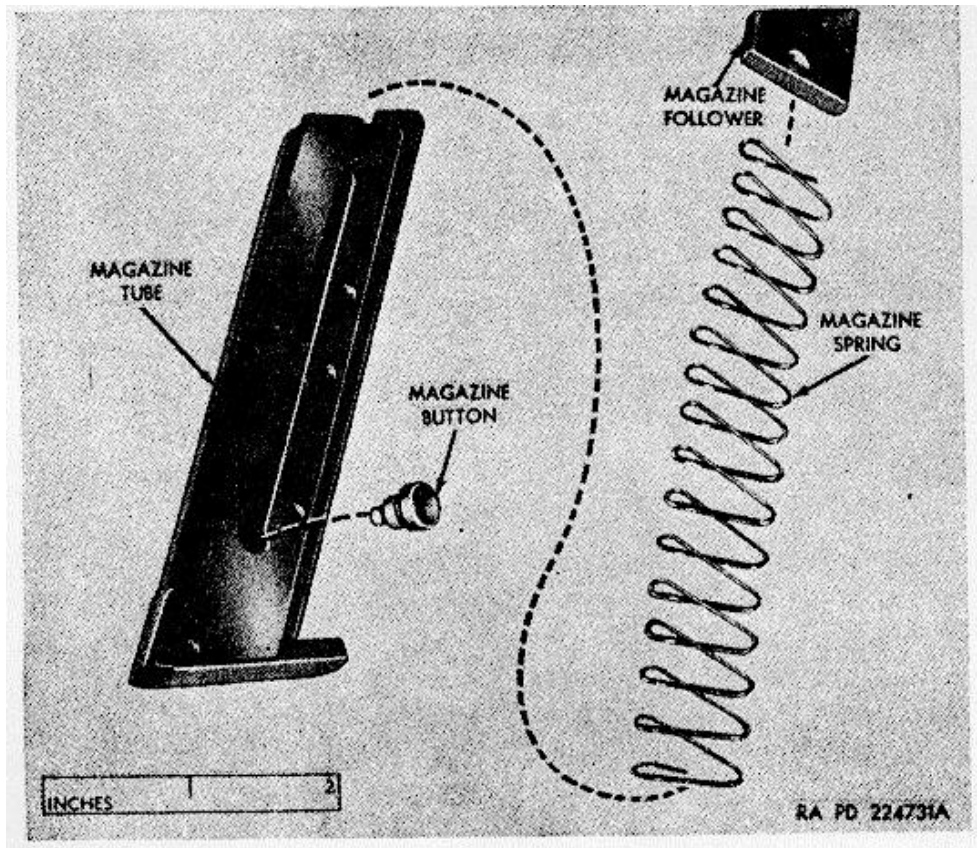

Figure 53. Magazine assembly-exploded view (high standard).
- (5) Insert the driving spring plunger (A-3), driving spring (A-2), and plunger spring plug (A-1) into well in slide (A-10). Depress spring and drive in driving spring plug pin (A-6).
a. *General.* The magazine assembly (fig. 53) consists of the magazine tube, magazine follower, magazine button, and magazine spring.